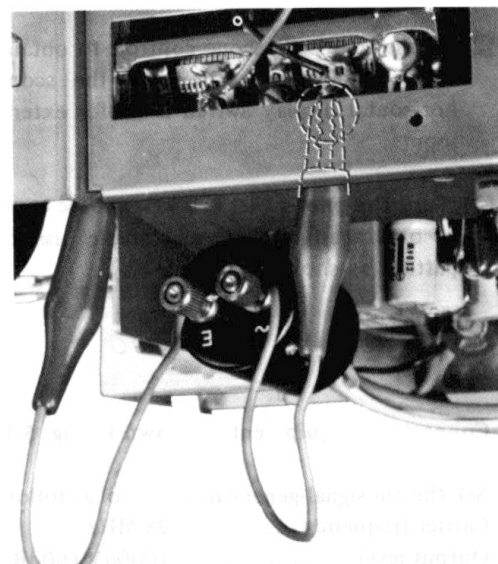

Fig. 5-14. 455-kHz sweep-generator connection point
- Connect the sweep-generator's output across CV402 (variable capacitor) through a 50- or 75-ohm pad, as shown in Fig. 5-14.
- Connect the rf signal-generator's output across CV402 (variable capacitor) through 50- or 75-ohm pad, as shown in Fig. 5-14.